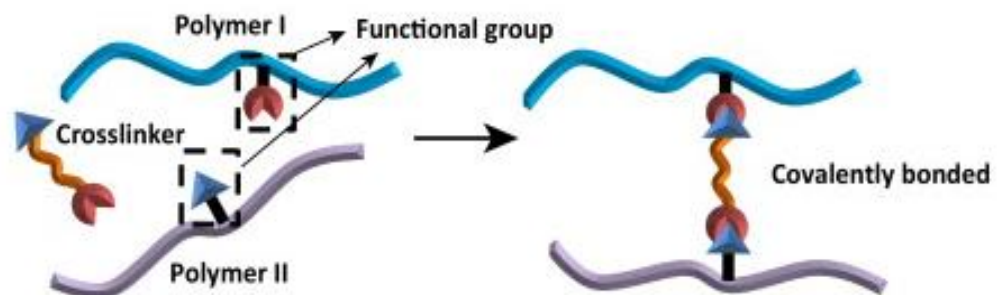

Figure 2c(i): Crosslinking reaction of polymer.
- i. Figure 2c(i) shows the crosslinking reaction of polymer. Elaborate **TWO (2)** possible conditions for crosslinking process to happen.
*Rajah 2c(i) menunjukkan tindak balas silang polimer. Huraikan **DUA (2)** keadaan yang mungkin untuk proses pertautan silang berlaku.*